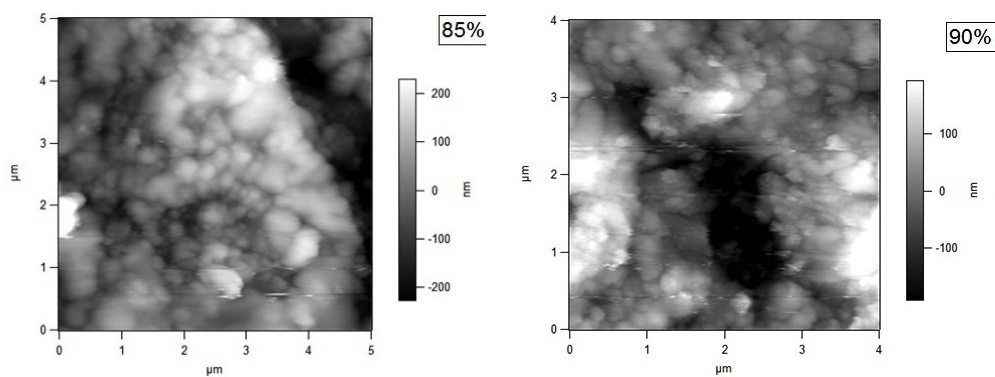

Figure 25.6.: Sample images taken in AC mode at temperatures approaching 400C.
- See Figure 25.6 on page 355 for some sample images at very high temperatures.